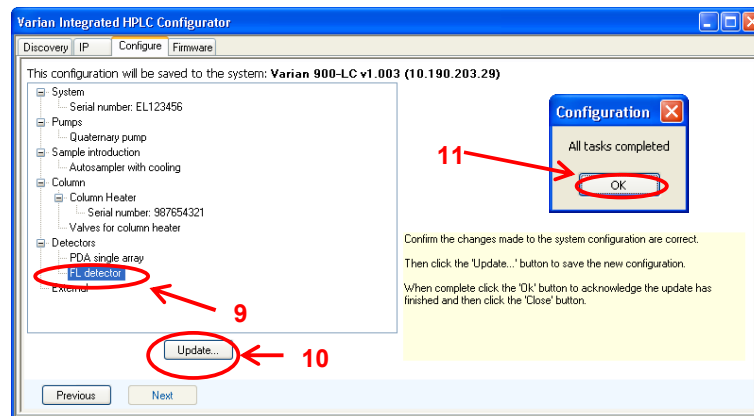

Figure 24: Update system screen
- Once the FL detector (9) has been added to the system, click the update button (10). After the system updates you will see the *All tasks completed window*. Click OK (11) to that window as well (Figure 24).